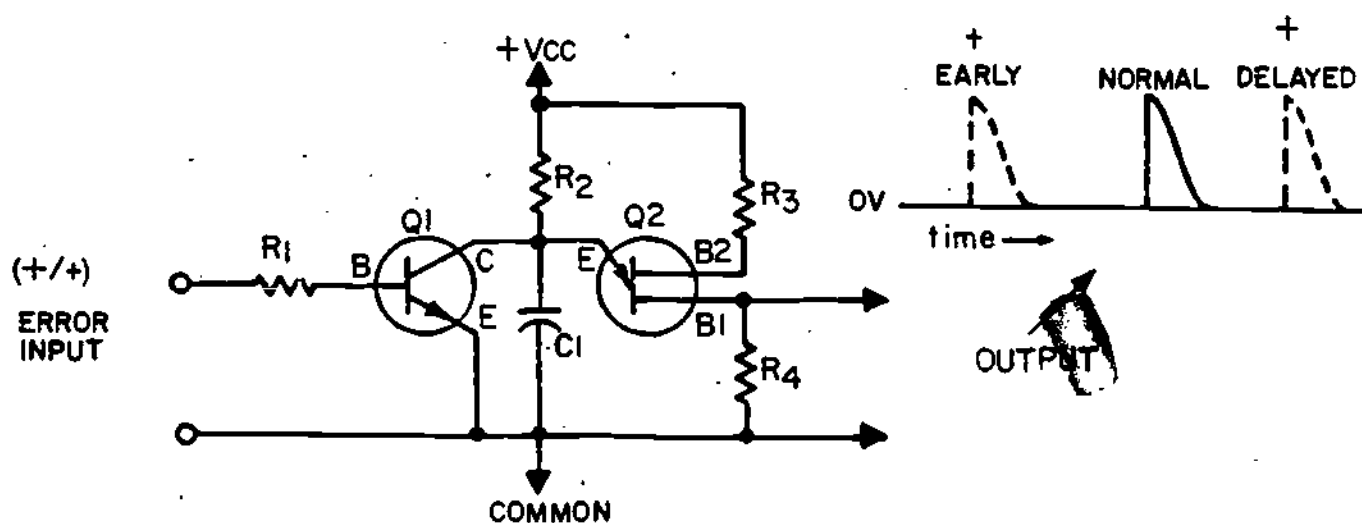

Figure 3
5. At this point you are familiar with the basic concepts of how changes in SCR gating time effects the output of SCR power supply circuits. The schematic shown in Figure 3 illustrates the two stages of the control circuit and their inter-connection.
6. Again refer to the schematic shown in Figure 3. Pay particular attention to the components which make up the pulse generator circuit. You should remember from Lesson 2, Module 25 that the UJT trigger circuit generates output pulses based on the time it takes the capacitor to charge to a voltage sufficient to forward bias the emitter-base 1 junction of the UJT. R2 and C1 are fixed components that determine this charging time. Thus, Q1 will determine, based upon the error voltage applied to its base, the time required for C1 to charge to the UJT trigger level.